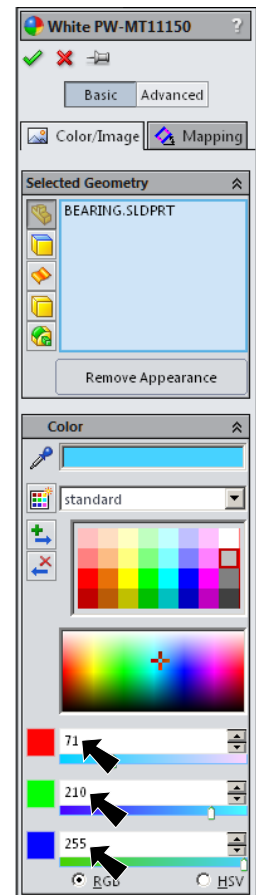

Fig. 11
Step 2. In the Appearances Property Manager, Fig. 11 under Color: